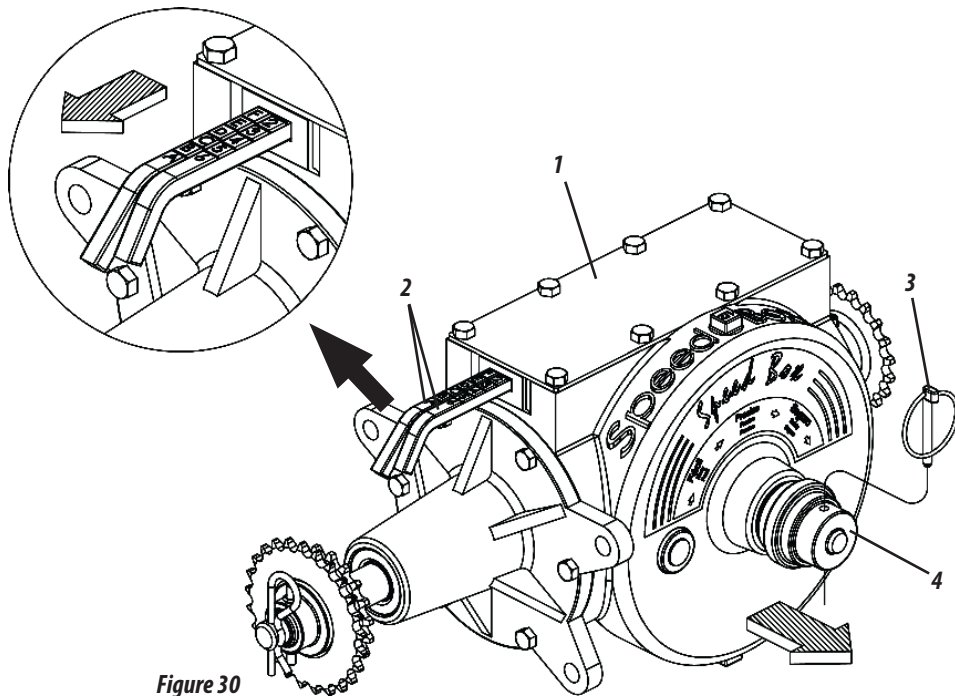

Figure 30
- Seed drills are equipped with the Speed Box system (1), which triggers the distribution system with simple settings, ensuring quick exchange of rotations. To calibrate the seeds, proceed as follows:
- 37 - Select the desired amount of seeds in the tables and check the corresponding combination in the levers (2). Example: Position F2 in the table indicates that the lever with letters must be in position "F" and the lever with numbers must be in position "2", as shown in Figure 30.